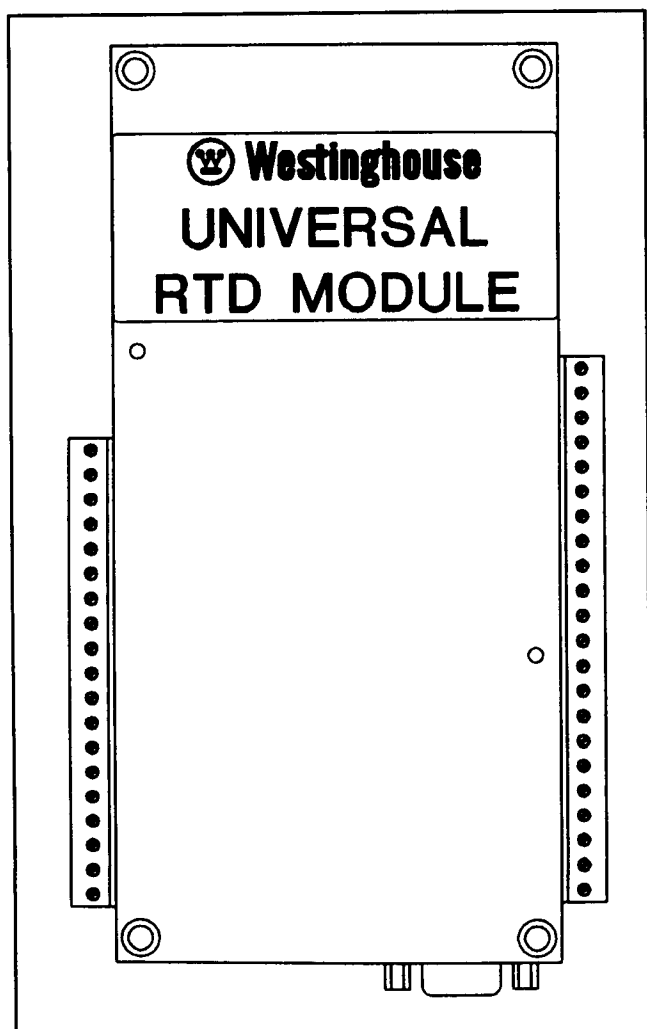

Figure 2.3 — Universal RTD Module
**2.1.3.1 RTD Module Option** — The Universal RTD Module is a separately purchased optional device (see Figure 2.3) which interfaces with the motor RTDs and the IQ-1000 II. The RTD inputs connect to the terminal blocks of the RTD Module as described in Paragraph 5.1.2 and the RTD itself connects to the IQ-1000 II through the fiber optic connector and/or the communications port.